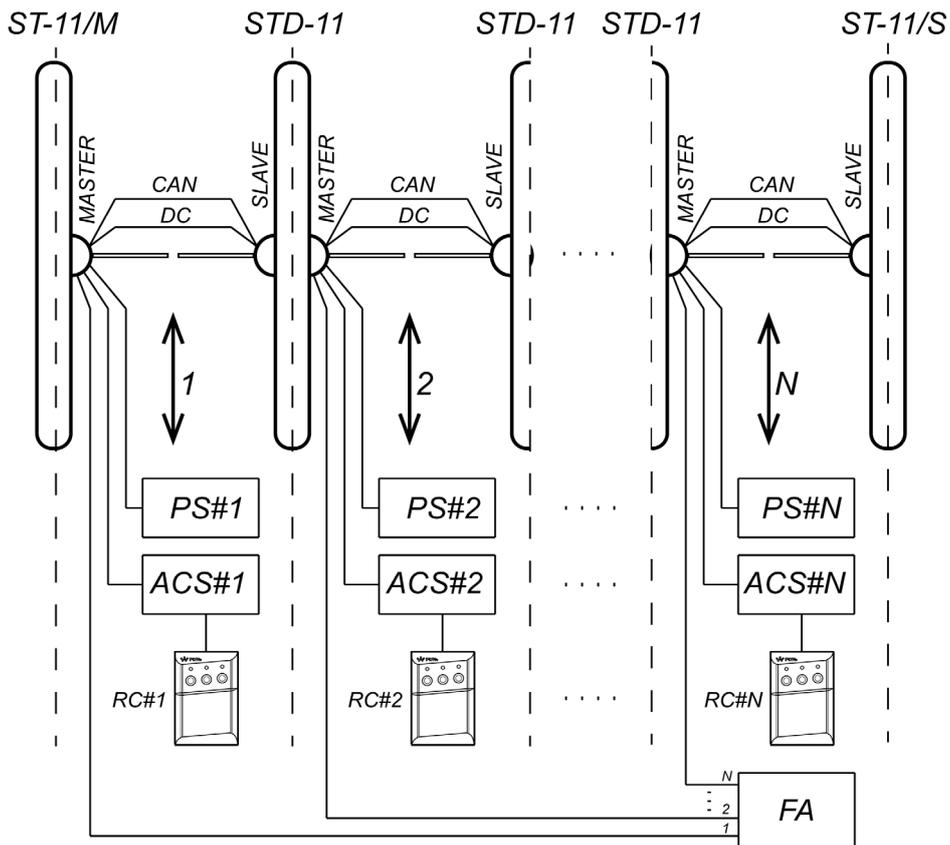
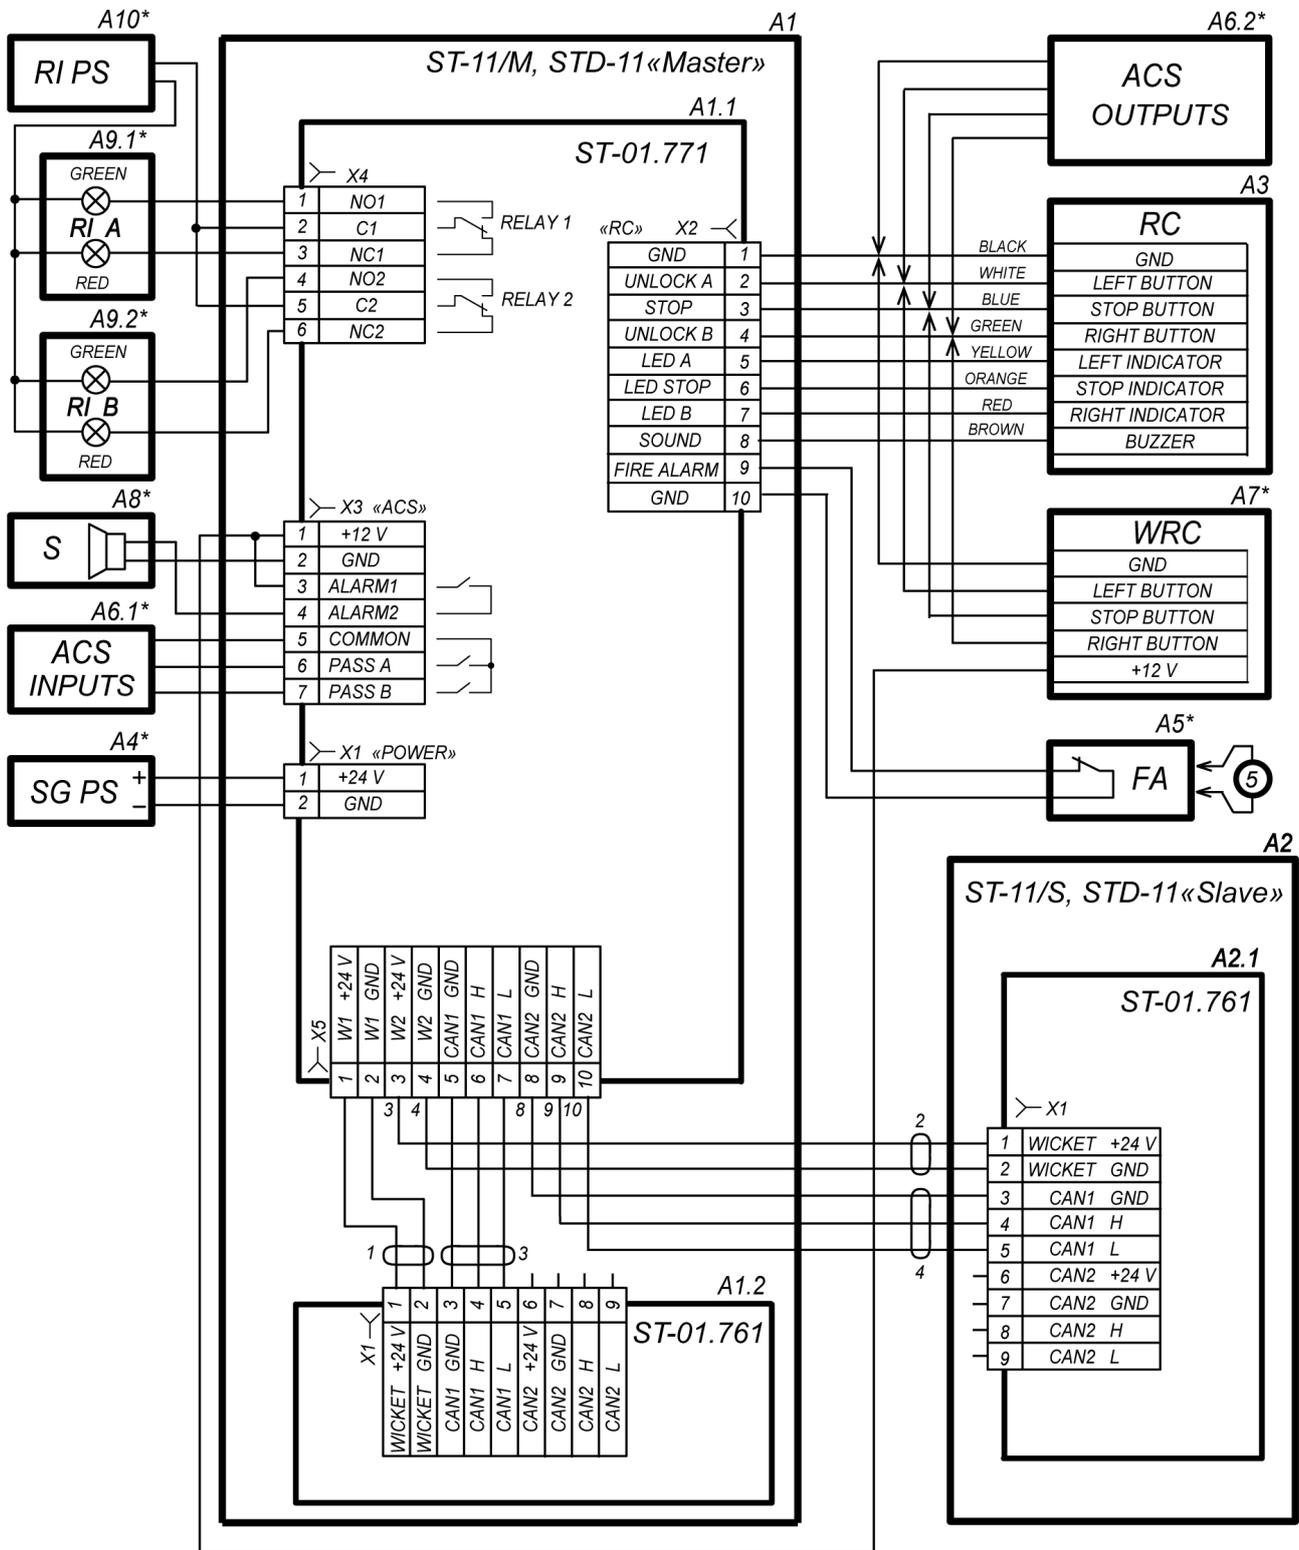
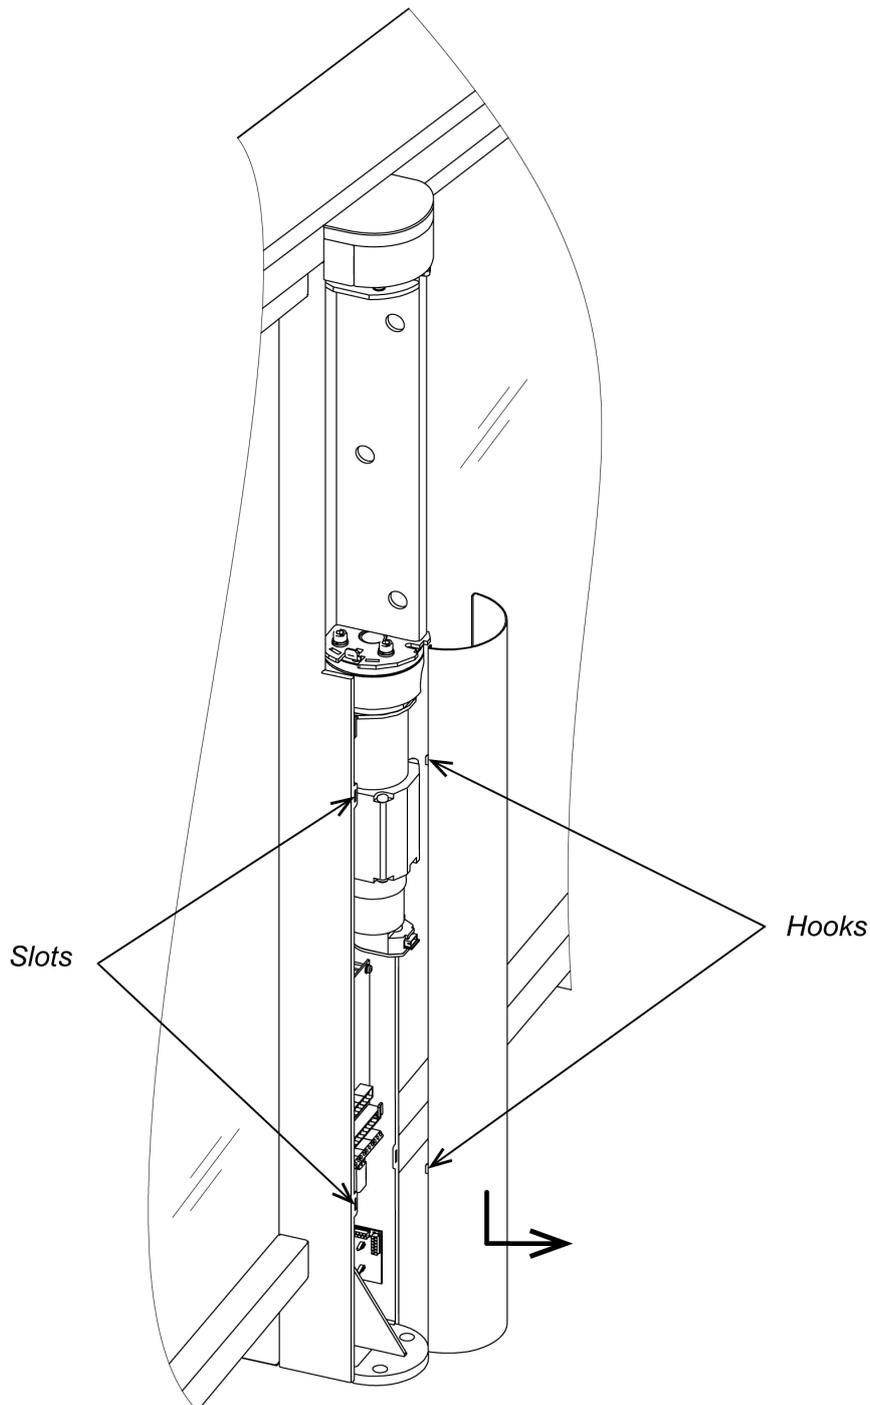

Figure. 17 Diagram of connections for the ST-11 turnstiles and the two-sided sections STD-11 to organize the check-point with several passage zones
Figure. 18 Speed gate wiring diagram¹
Figure. 19 Central post cover plate disassemble
Installation order is described with regards to recommendations, given in Sect. 8.1. Installation tools are listed in Sect. 8.2. Figure numbers are given in accordance with Fig. 6 and 7. Speed gate connection layout is given in Fig. 18. Types of cables used are stated in Sect. 5. The example of **ST-01** and **STD-01** connection layout with extra passage lane arrangement is shown in Fig. 17.
When it is impossible to use flexible conduit for cabling, then it is necessary to route DC and CAN cables prior to the sections installation. These cables are located under the housing of the *Slave* section central post (side of the section). To do so it is necessary to unpack the *Slave* section, dismantle the housing of the central post (see Fig. 19), take out DC and CAN cables and disconnect them from the drive control board. There are numbers on the cut-off ends of the core that correspond to the connection layout (Fig. 18).
- Remove the central post cover plate (2) (Fig. 19, Sect. 8.9.1).
14. Route cables for controlling the second passage lane by using the hole located in the base plate of the double-section central post (from the *Master* section side): from PS, from RC-panel or ACS-controller, from the Fire Alarm device and from optional equipment. Route DC (16) and CAN (17) cables from the *Slave* section (side of the section) or a flexible conduit for cabling.
20. Connect cables to the control board of the first passage lane according to the speed gate electric connection layout (see Fig. 9 and Fig.18). The control board is located in the bottom side of the *Master* section central post.
DC (2) and CAN (4) cables should be connected to the **X5** terminal blocks of the *Master* section control board and to **X1** terminal blocks of the *Slave* section drive board in accordance with the conduit marking (see Fig. 18).
To remove the central post cover plate (2), pull the cover plate down along the post, take it aside from the post, bringing the hooks from slots in the central post (Fig. 19).